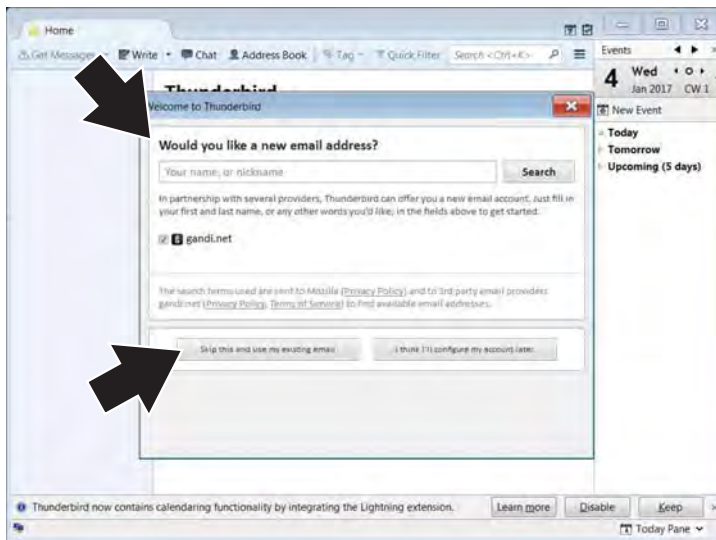

Figure 11-12
- Choose to use your existing email address, or create a new email address with the email client (Figure 11-12).